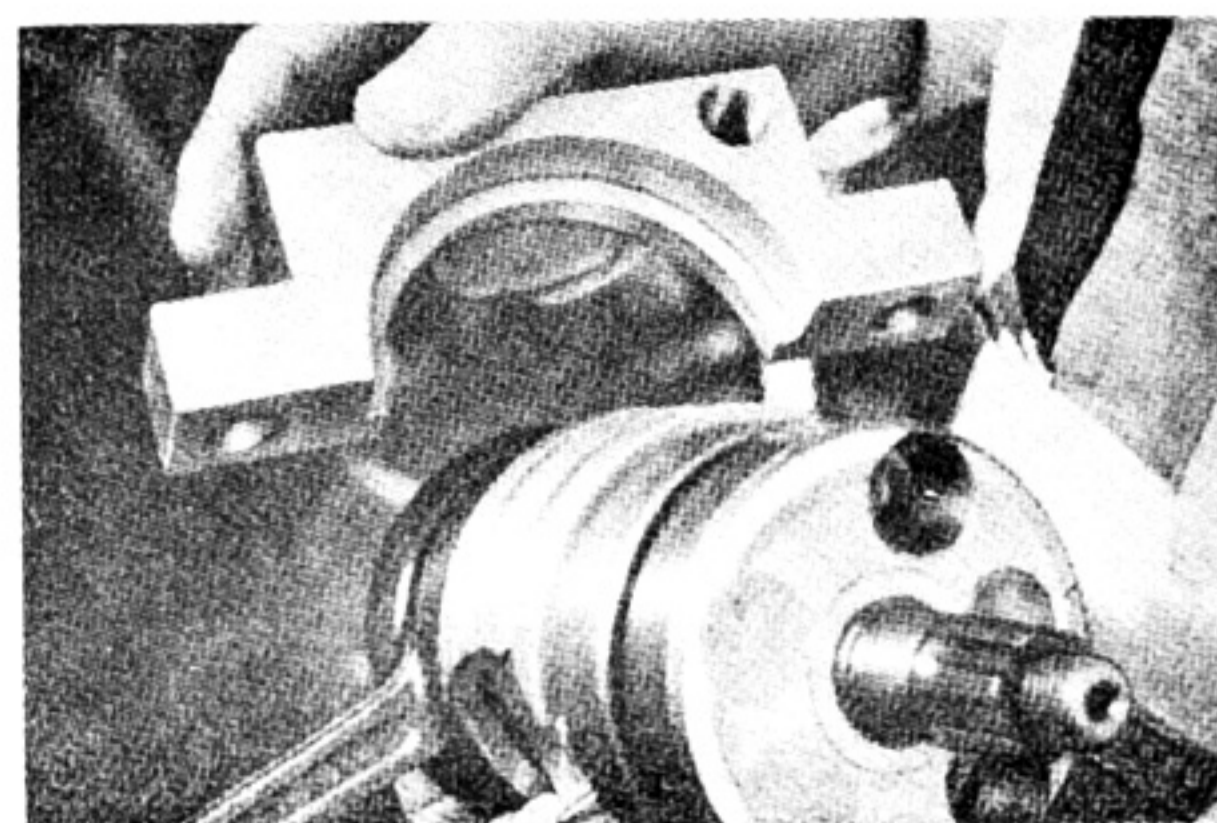

Fig. 3-16-5
- a. Insert the tool (1) into the gap between the crank web and the crank cover. (Fig. 3-16-5)
- b. Fully tighten the bolts of each tool (1) and (2). (Fig. 3-16-5)